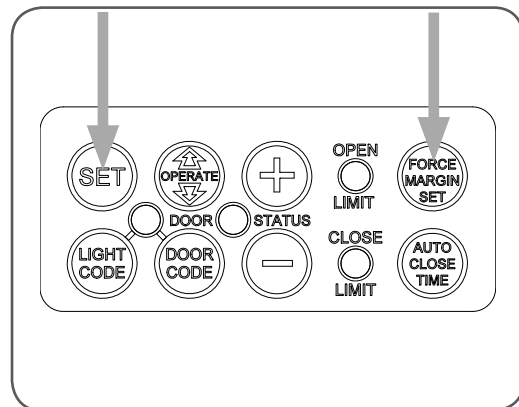

fig 30
- While holding down the FORCE MARGIN SET button, press the SET button for two (2) seconds. (Fig. 30)